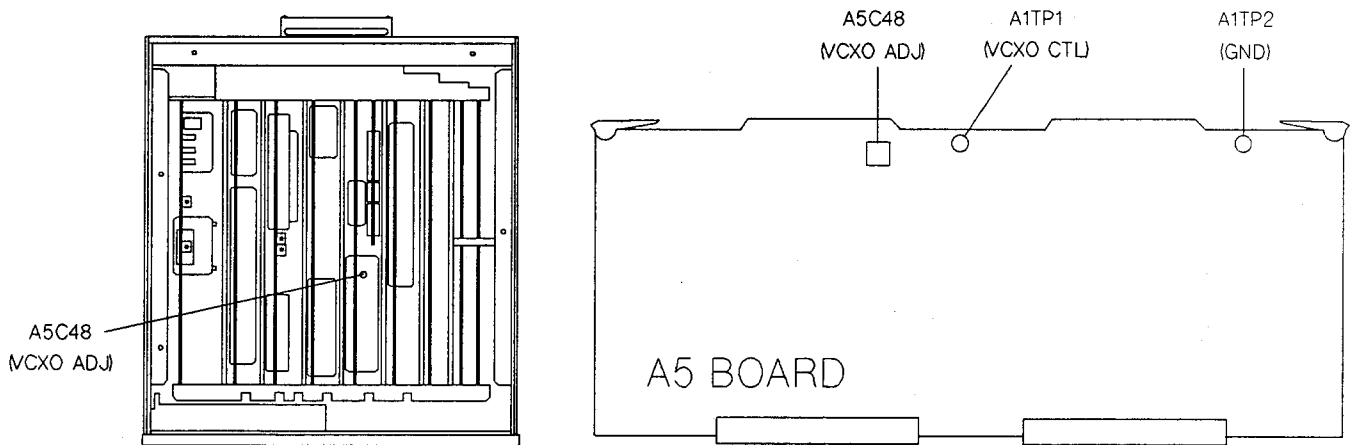

Figure 2-9. VCXO Adjustment Location
4. Connect the multimeter Lo input to A5TP2 (**GND**). Then connect the multimeter Hi input to A5TP1 (**VCXO CTL**). Figure 2-9 shows the location of TP1 and TP2.
- Adjust A5C48 (VCXO ADJ), until the multimeter reads -7.5 ± 0.5 V. Figure 2-9 shows location of A5C48.